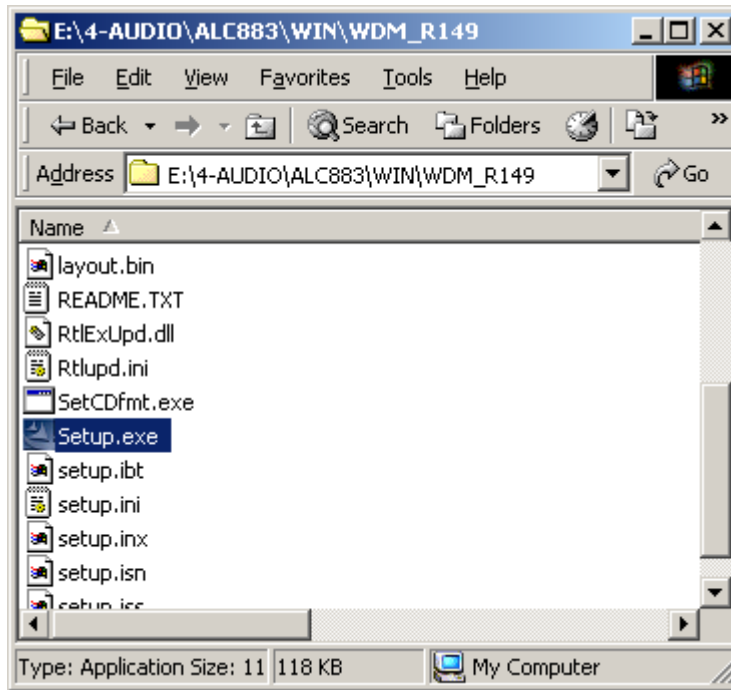

Figure 7-29: Locate the Setup Program Icon
Step 6: Double-click the **Setup.exe** program icon in Figure 7-29.